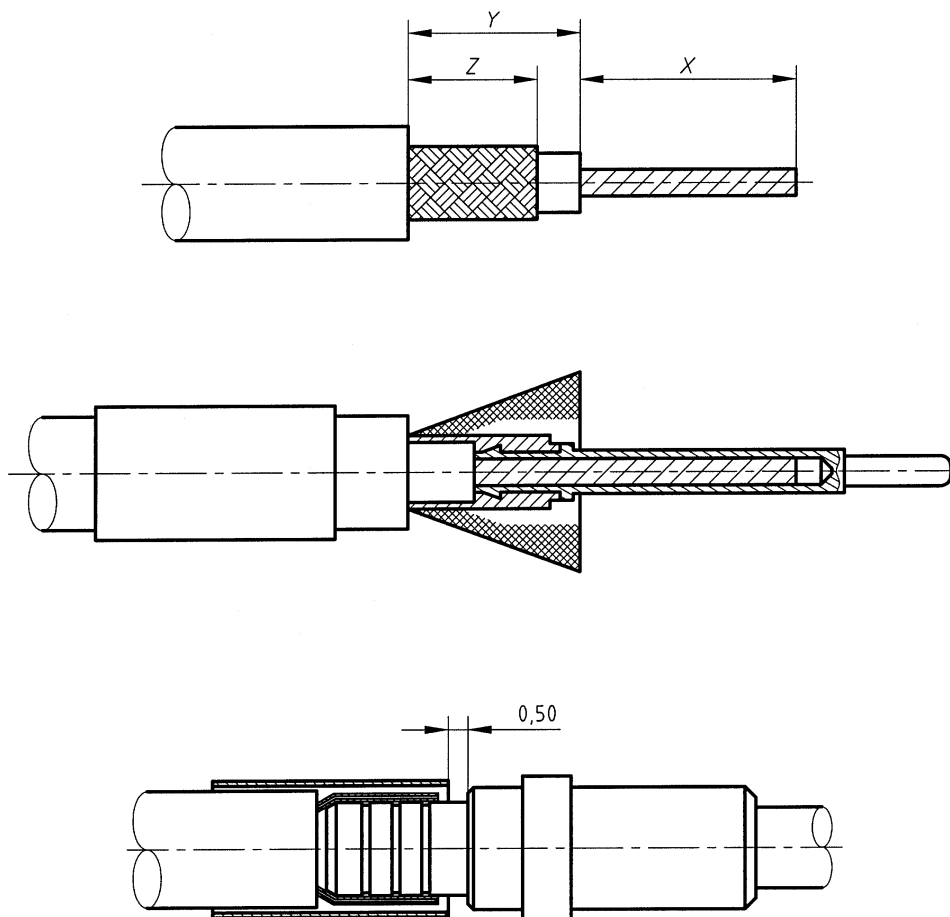

Figure 3
a) Strip the cable as shown on Figure 3 with: